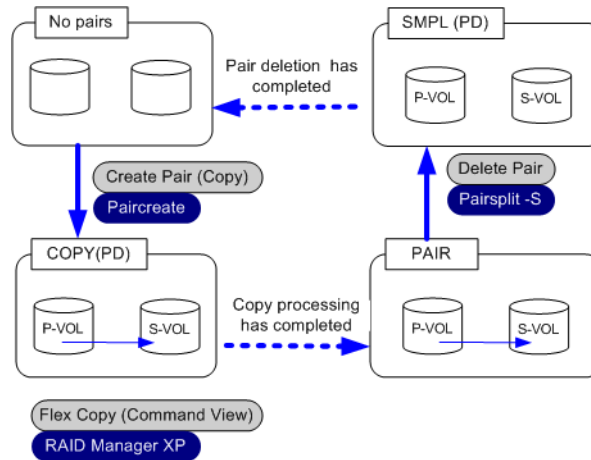

Figure 333: Transitions of Flex Copy Pair Status
- When you perform operations on the copy pair using RAID Manager XP, additional types of pair status values may occur that do not appear in Figure 333. This is because those operations correspond to Business Copy XP operations.